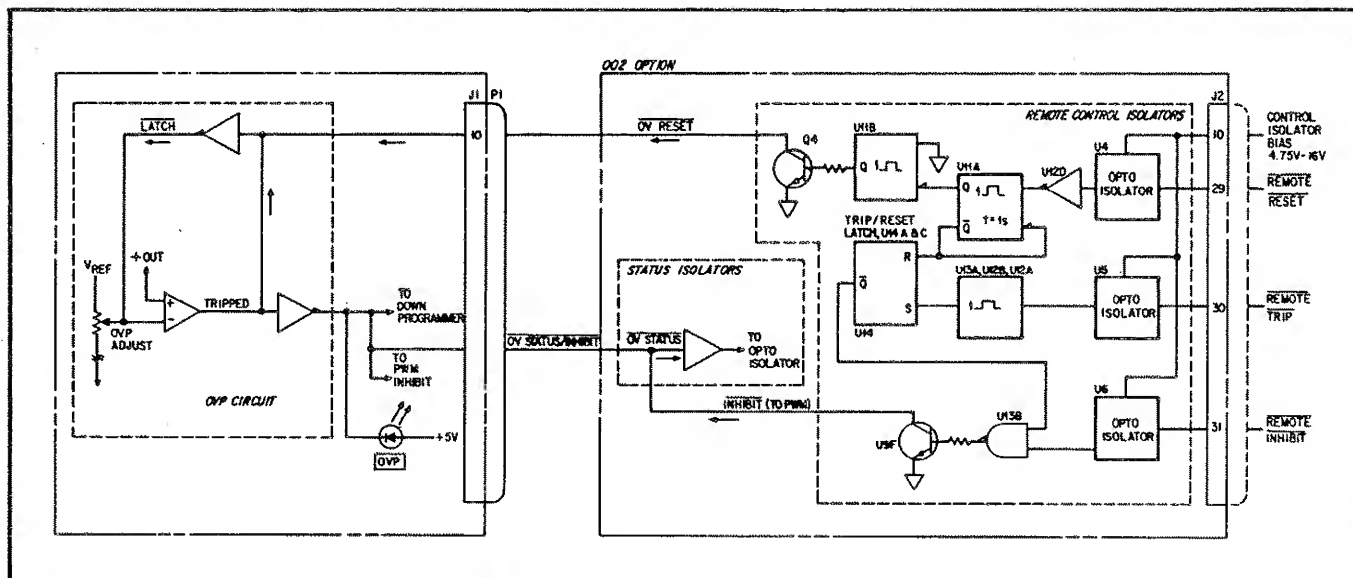

Figure A-7. Remote Control
A-45 **Remote Trip.** A negative-going edge applied at input J2-30 (REMOTE TRIP) will shut down the power supply, reducing its output voltage to near zero. For minimum pulse duration and timing considerations with respect to REMOTE RESET, see Table A-1. The following paragraph provides a brief circuit description (see schematic diagram and Figure A-7.)
A-47 **Remote Reset.** A negative-going edge applied at input J2-29 (REMOTE RESET) will return the supply to its initial state following a system-initiated shutdown (REMOTE TRIP) or an OVP shutdown caused by a temporary overvoltage condition. For minimum pulse duration and timing considerations with respect to REMOTE TRIP, see Table A-1. The following paragraphs provide a brief description of this circuit (see schematic diagram and Figure A-7).
**A-50 Alternate Method of Remote Control.** The REMOTE INHIBIT input, J2-31, provides an alternate method of remote shutdown. By maintaining a low logic level at this input, the supply's output will be inhibited until REMOTE INHIBIT is returned to its initial high state. The following paragraph provides a brief description of this circuit (see schematic diagram and Figure A-7).